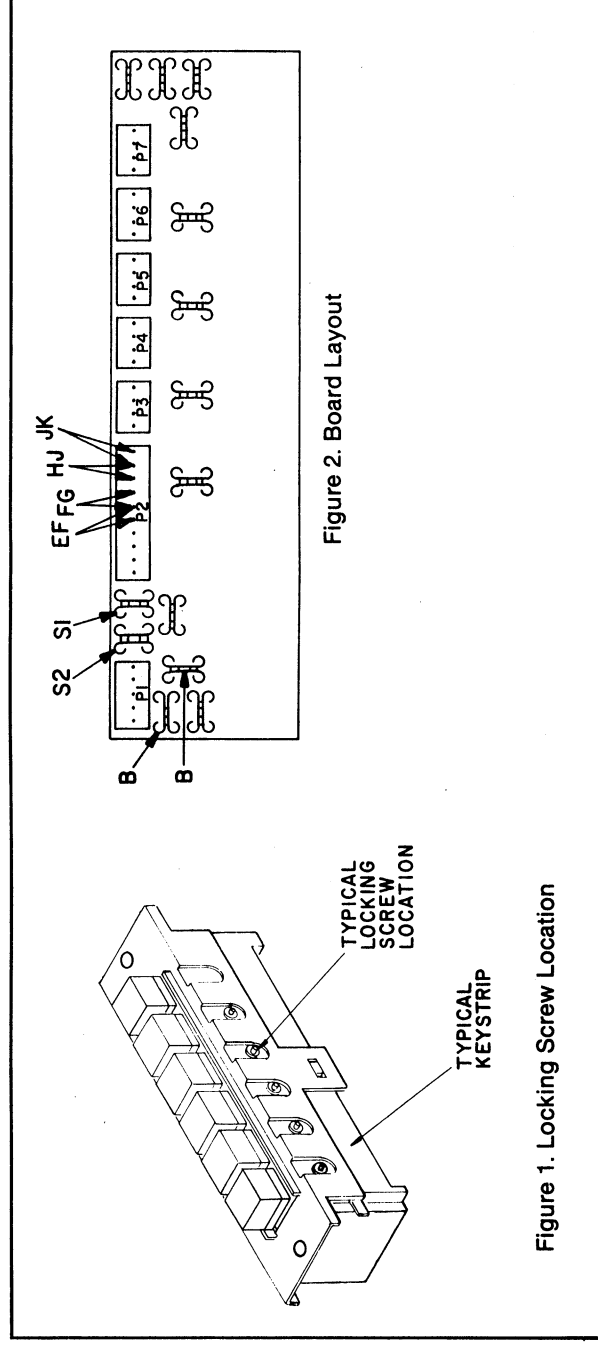

Figure 1. Locking Screw Location
The line 4 or line 5 pick-up key can be converted into a single-make, normally-open, pushbutton for use as a signaling key or for other functions requiring a contact closing operation. Also, two or more keys can be converted for a conferencing function. To make the desired conversion, proceed as detailed below and as illustrated in Figures 1 and 2.
- Locate the line pick-up key to be converted, and remove the locking screw from it. See Figure 1.